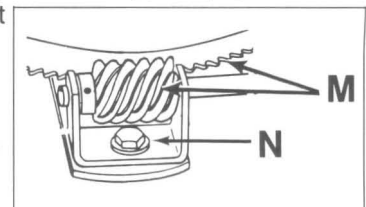

Figure 5-7
2. Remove the worm gear and support (Figure 5-7, Item M) from the left hand side of the snowthrower by removing the bolt (Figure 5-7, Item N).
7. Reinstall the worm gear and support (Figure 5-7, Item M) to the left-hand side of the snowthrower. Firmly tighten the bolt (Figure 5-7, Item N) that holds it in place. Rotate the chute control crank to make sure that the deflector chute turns freely. If it doesn't, loosen the bolt (Figure 5-7, Item N) and adjust the support inward or outward so that the chute doesn't bind.
2. Remove the screw (Figure 5-7, Item N), worm gear, and support (Figure 5-7, Item M).
6. Reinstall the worm gear and support (Figure 5-7, Item M) to the left-hand side of the snowthrower. Firmly tighten the bolt that holds it in place. Rotate the chute control crank to make sure that the deflector chute turns freely. If it doesn't, loosen the bolt (Figure 5-7, Item N) and move the support inward or outward as necessary so that the discharge chute does not bind when you rotate the chute control crank.